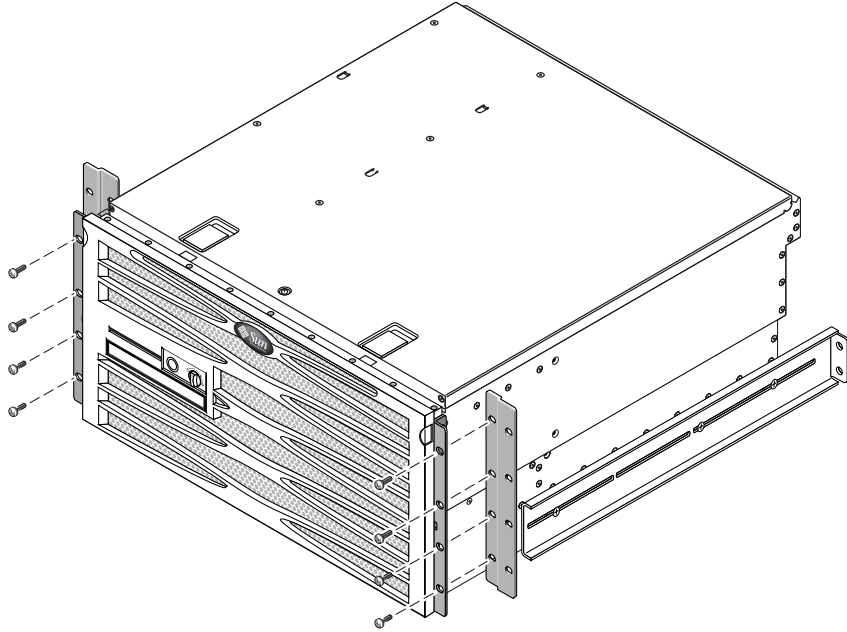

FIGURE 3-20 Attaching the 600 mm Front Adjuster Brackets to the Front Hardmount Brackets
7. Using eight of the supplied M5 × 8 mm panhead Phillips screws (four screws for each adjuster bracket), attach the 600 mm front adjuster brackets to the front hardmount brackets (FIGURE 3-20).